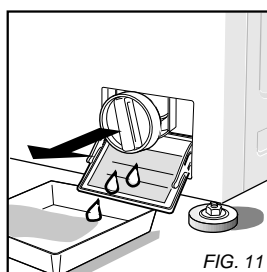

FIG. 11
1. Place a pan or towel under the filter door (Fig. 11), since a small amount of water could spill.